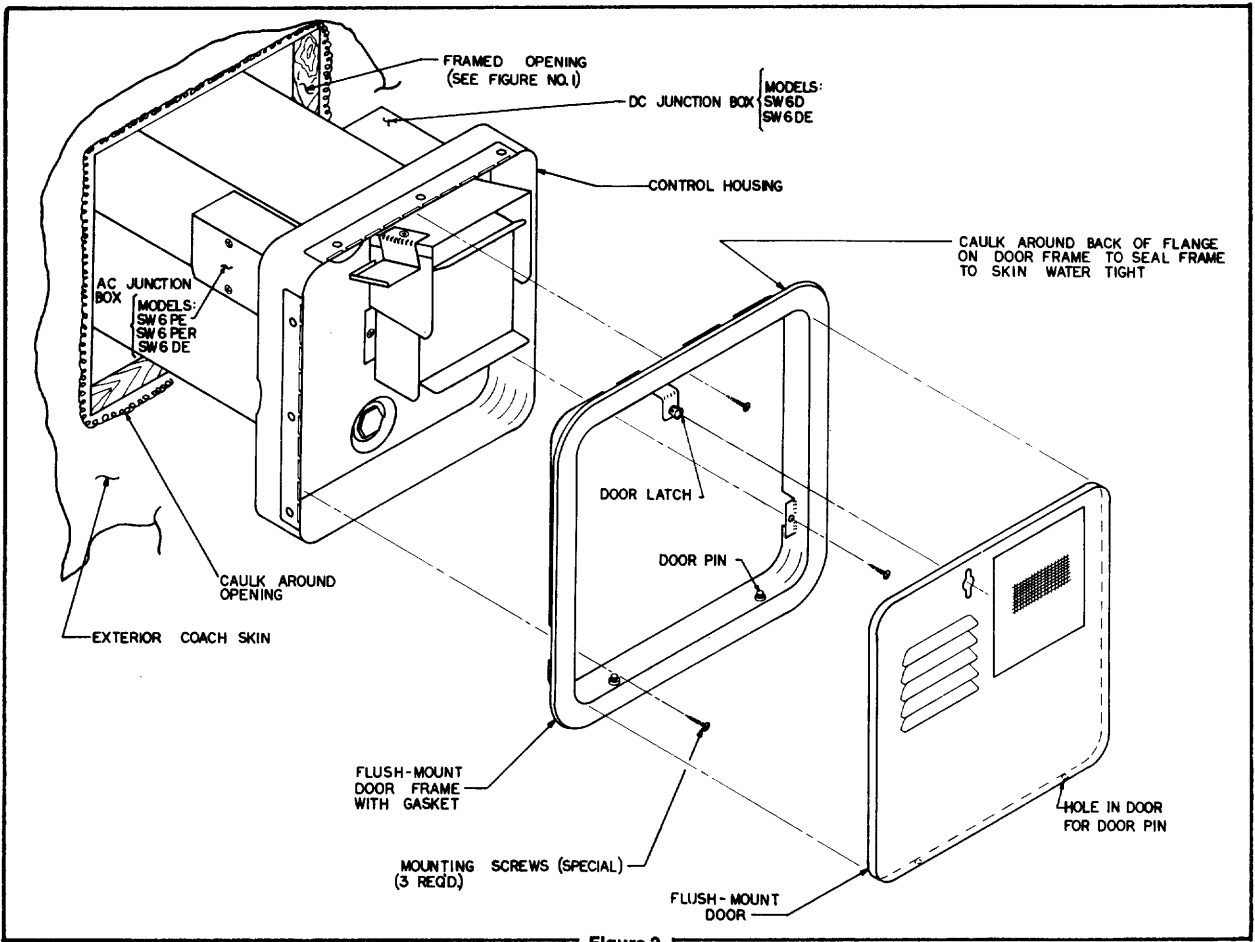
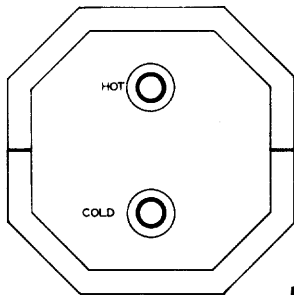
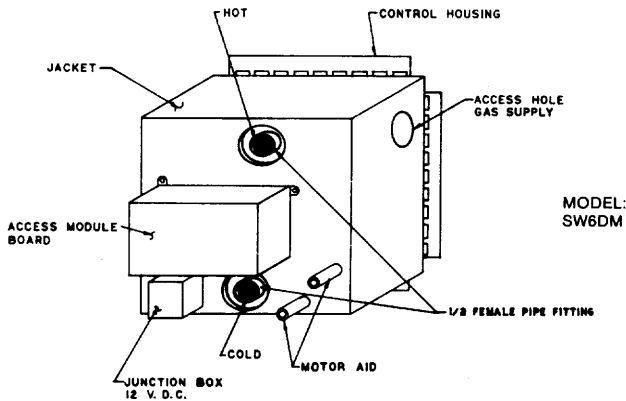

Figure 2
Figure 5
Figure 6
I. INSTALLATION USING FLUSH MOUNT FRAME AND DOOR (See Figure 2 for illustration)
- D. Insert door frame into control housing and secure with three (3) No. 8 x 3/8 screws provided. NOTE: Three (3) No. 8 x 3/8 screws installed at factory to seal extruded holes must first be removed.
A. Water connections are made at the rear of the water heater. Refer to Figure 5 for all models except SW6DM. For model SW6DM, refer to Figure 6. Connect the hot and cold water lines to the 1/2" female pipe fitting provided on rear of tank. These fittings are marked "HOT" and "COLD". NOTE: Inside each fitting is a plastic fill tube. Its purpose is to enhance water circulation. **DO NOT REMOVE PLASTIC FILL TUBE.**
B. Refer to Figure 2 for location of D.C. junction box on models SW6D and SW6DE. Refer to Figure 6 for location of D.C. junction box on model SW6DM.
B. Refer to Figure 2 for location of A.C. junction box.